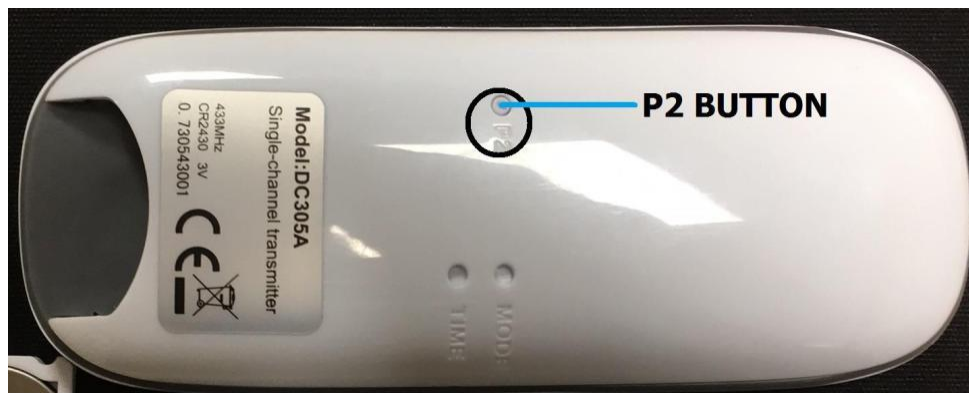

Figure 23
2. Push and slide out the battery cover of the new remote, make sure that the battery is properly installed and locate the **P2 button underneath the remote control**. **See figure 23.**